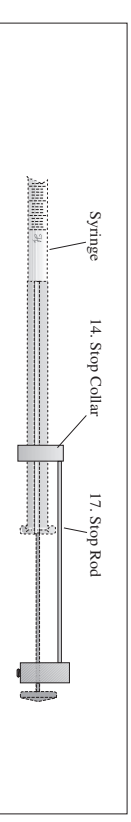

Figure 7
5. To set the volume, pull out the plunger until you can read the required volume. Bring up the stop collar until it just touches the stop rod (17). You may need to rotate the syringe so the stop rod will contact the wide part of the stop collar (Figure 7).